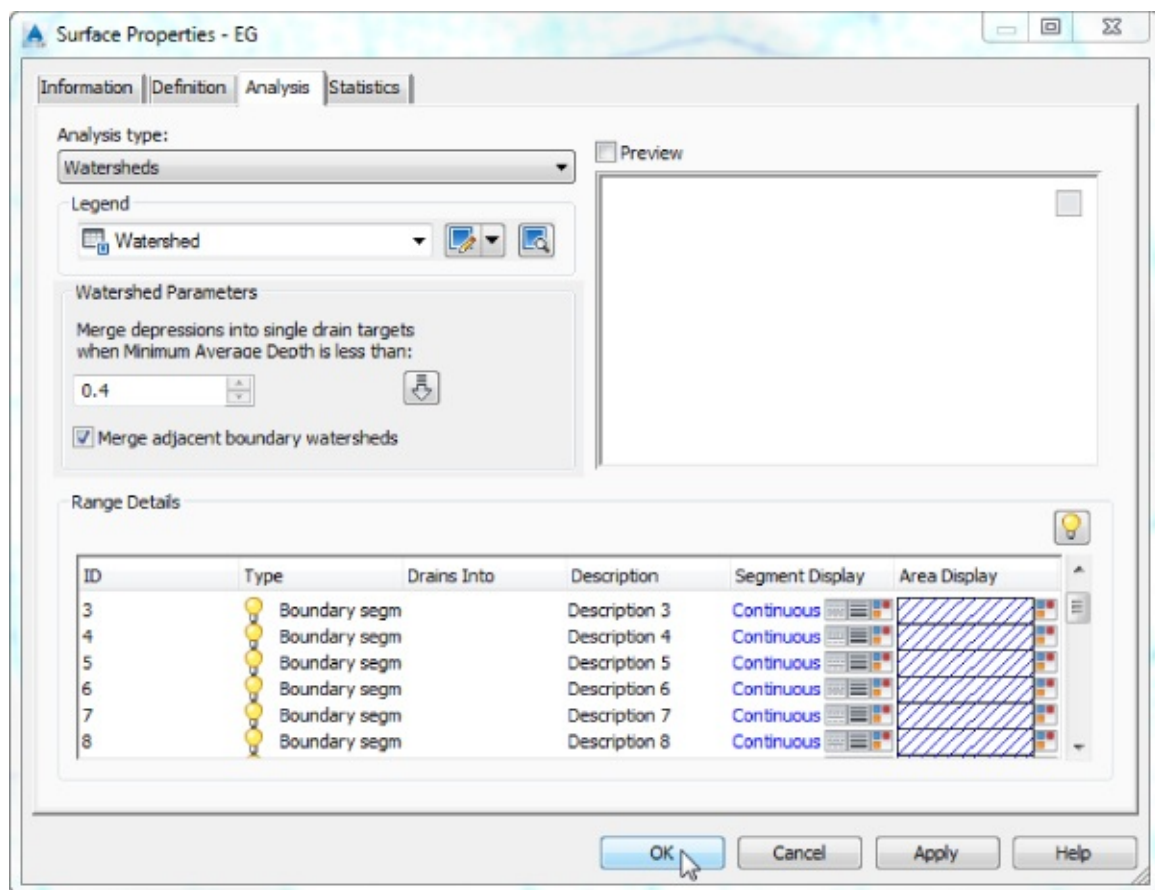

Figure 19.33 You must run the analysis in Surface Properties before the Watershed style kicks in.
- d.  Click the Run Analysis arrow in the middle of the dialog to populate the Range Details area. Your Surface Properties Analysis tab should resemble Figure 19.33.